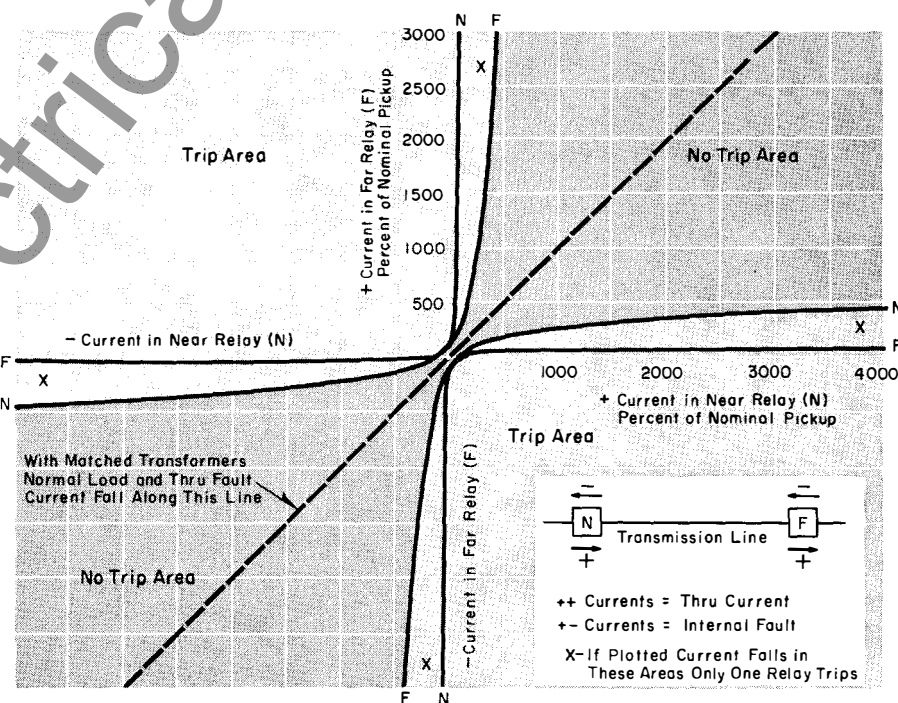

Fig. 3
An example of the characteristics with various current distributions is shown in Figure 3. The filter output voltage, V_F , of each relay, as defined by equation (1) must be in phase or 180 degrees out of phase, in order for Figure 3 to apply.